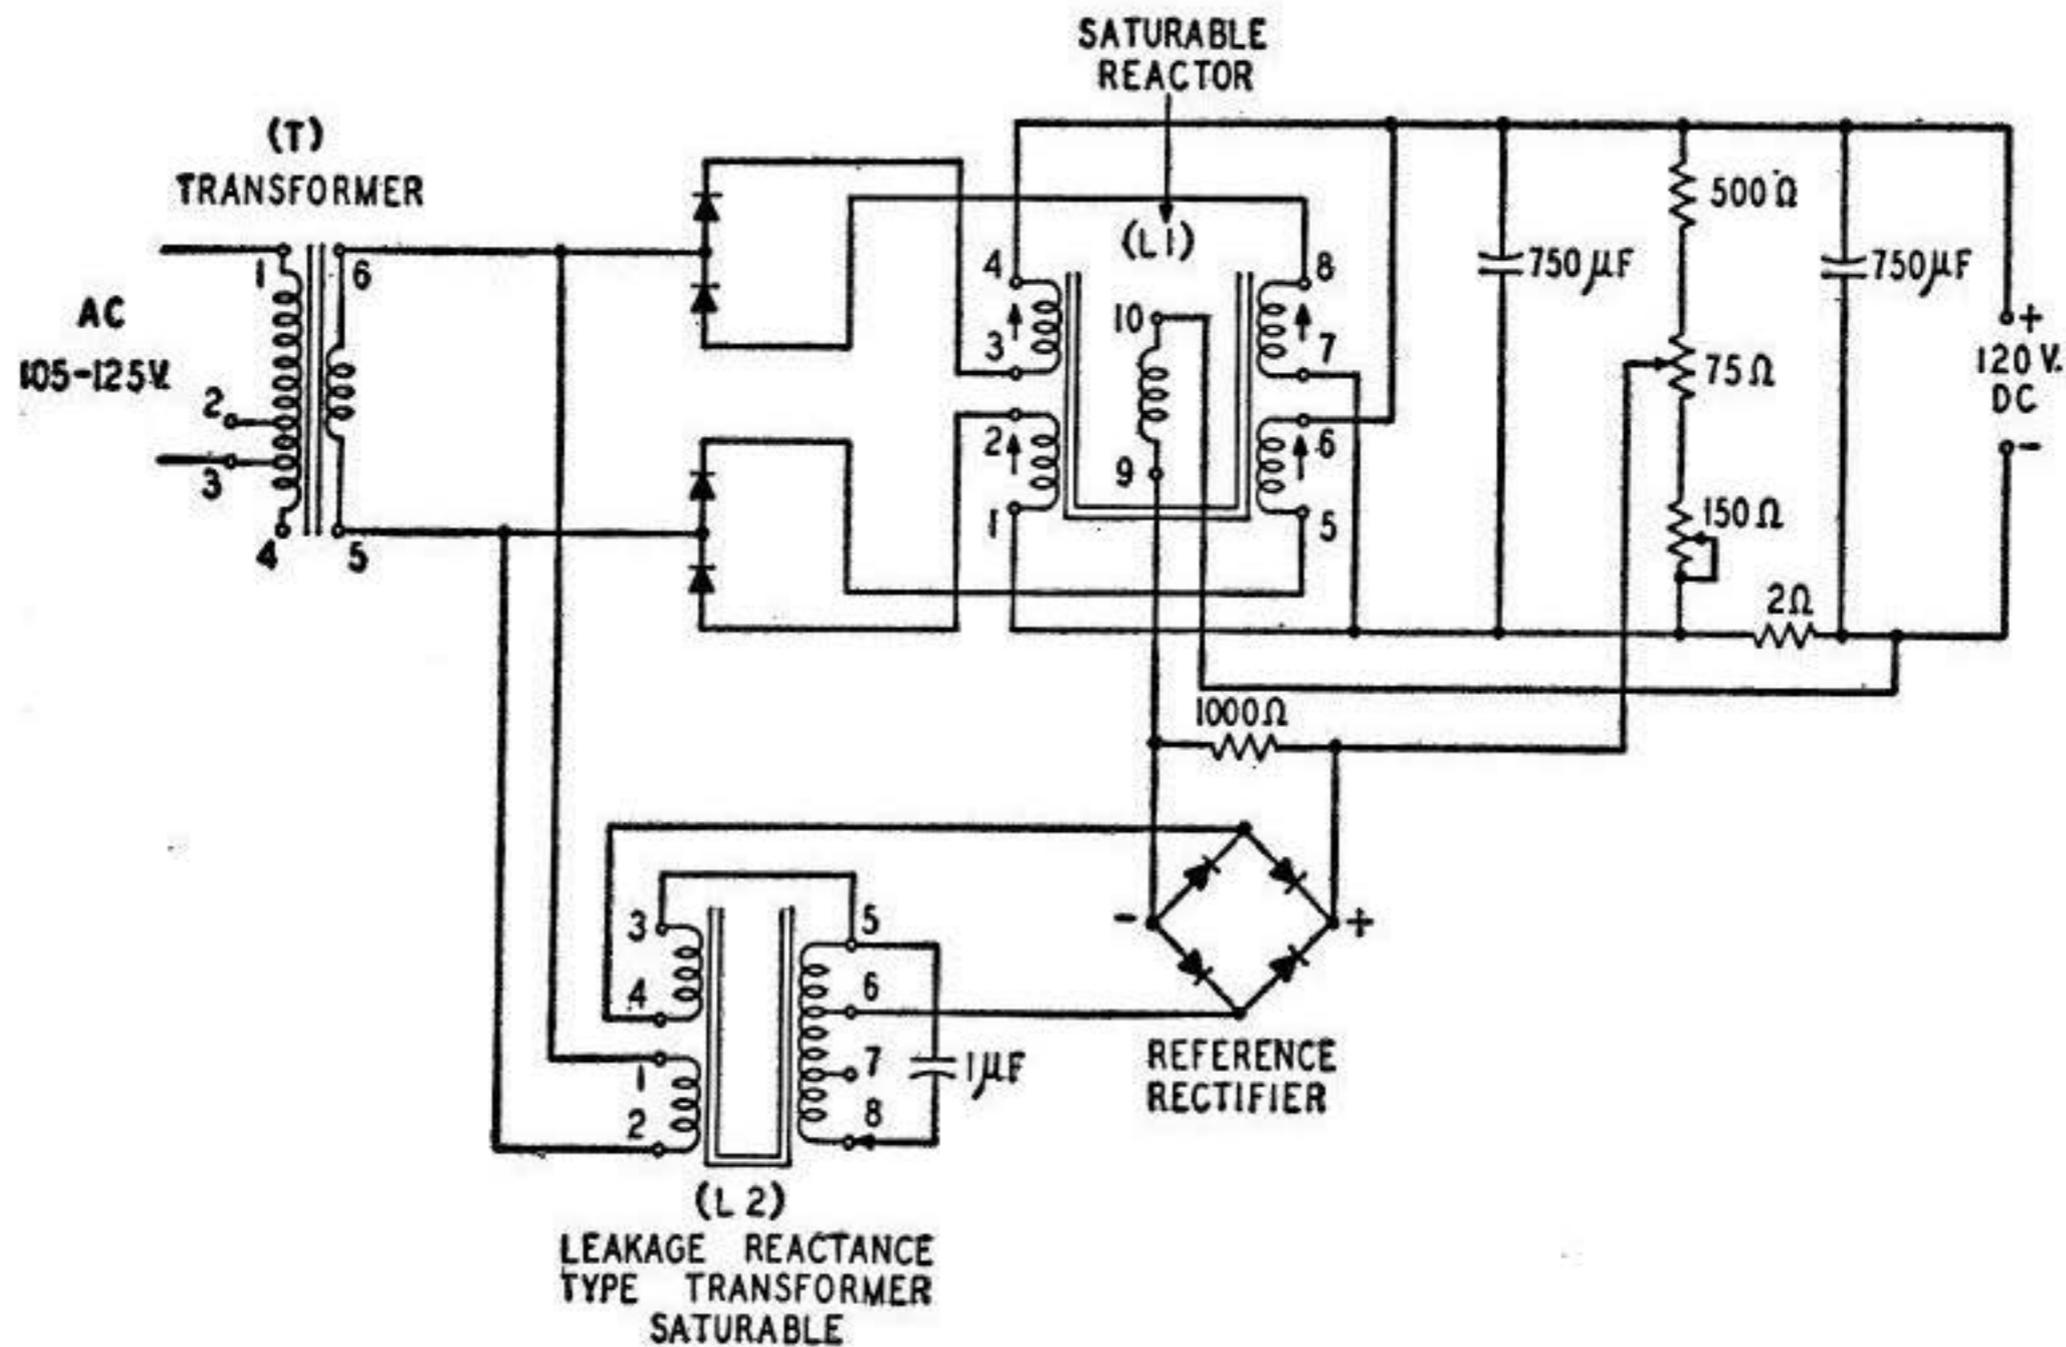
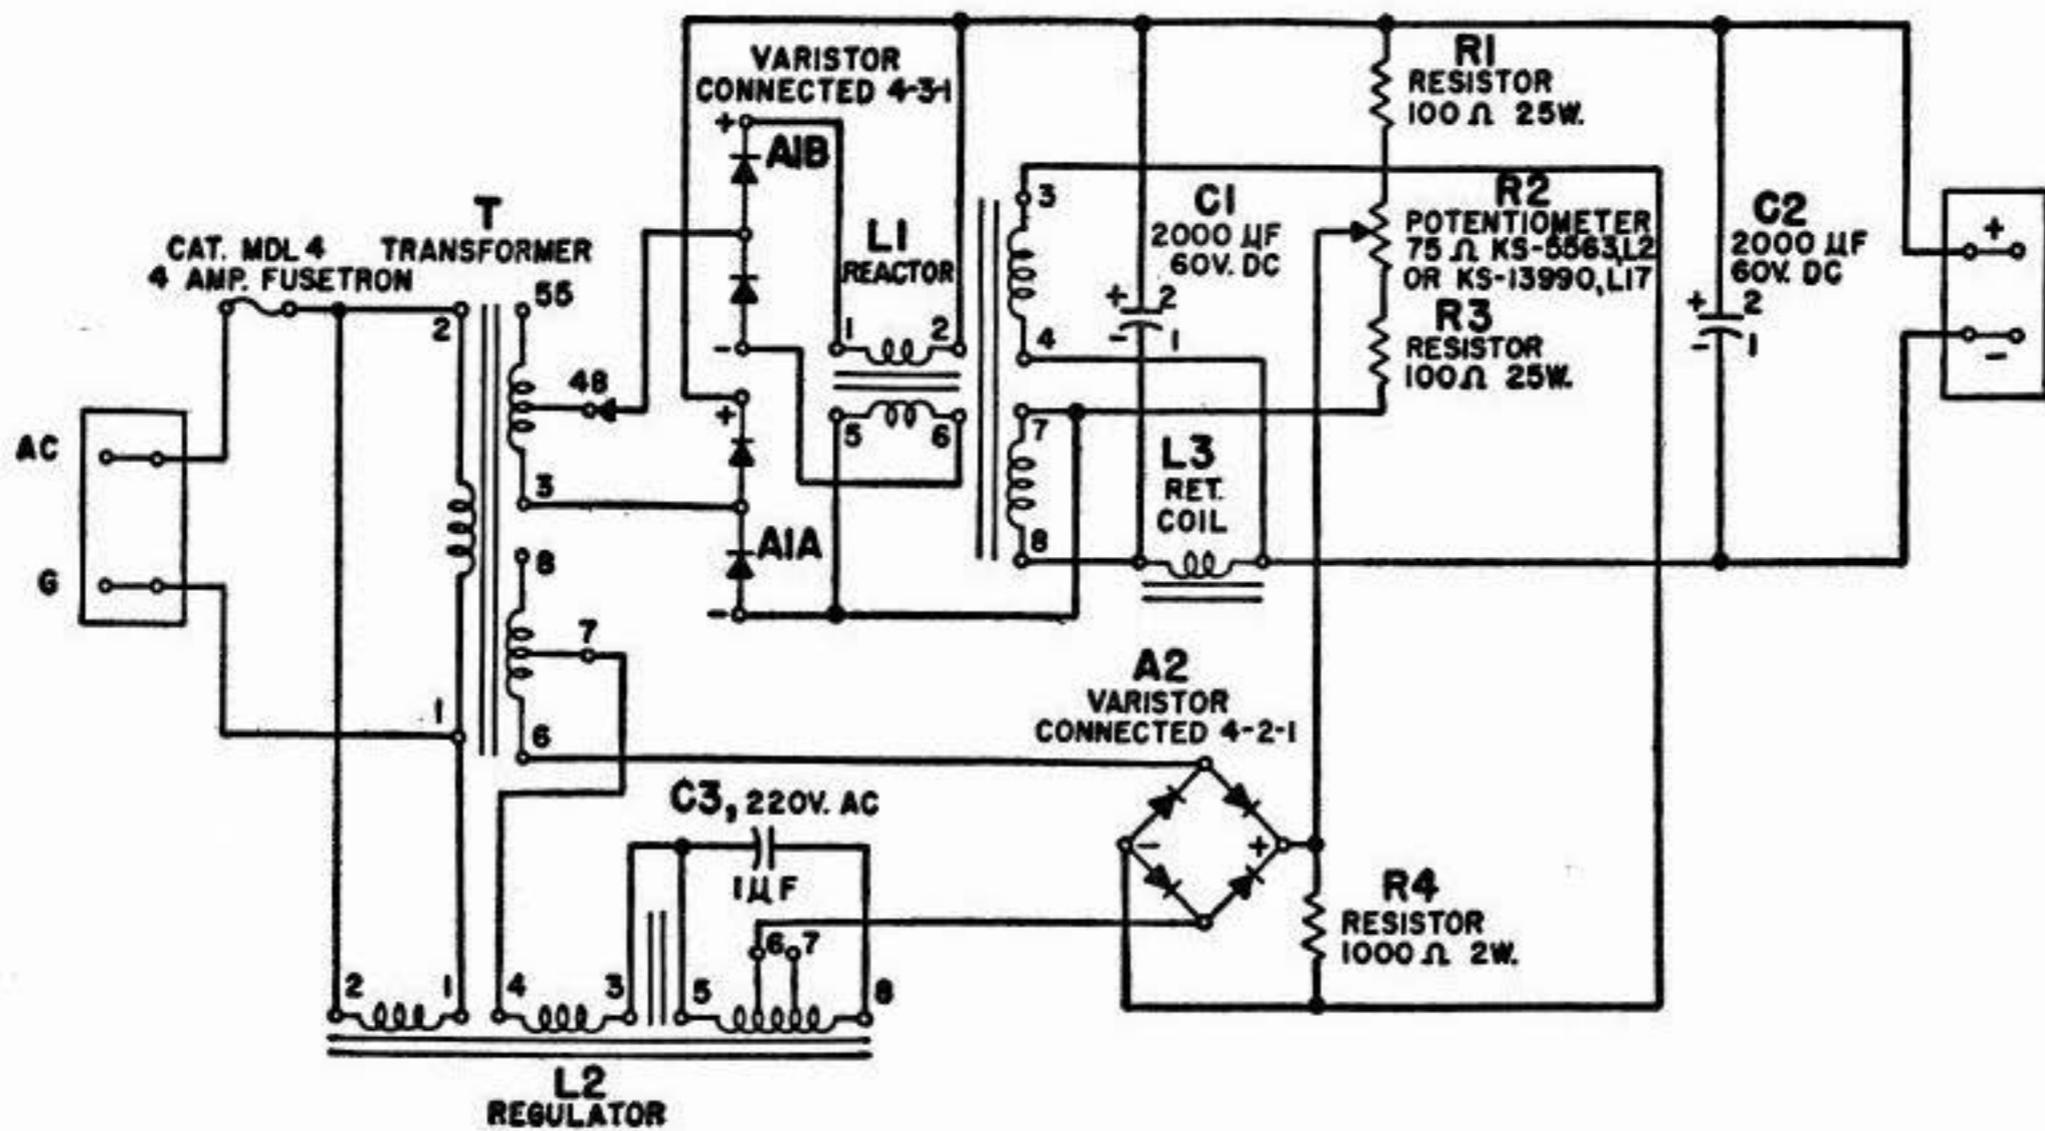

Fig. 4—Theory of Operation of KS-5769-type Rectifier
Fig. 6—KS-15620-L2 Circuit Schematic
Description of KS-5769 Rectifier (Fig. 4)
Description of KS-15620-L2 Rectifier (Fig. 6)
3.15 This rectifier is similar in its general theory of operation to the KS-5769 shown in Fig. 4. There is a saturable reactor L1 (Fig. 6) and a reference rectifier A2. Other features may be easily recognized.